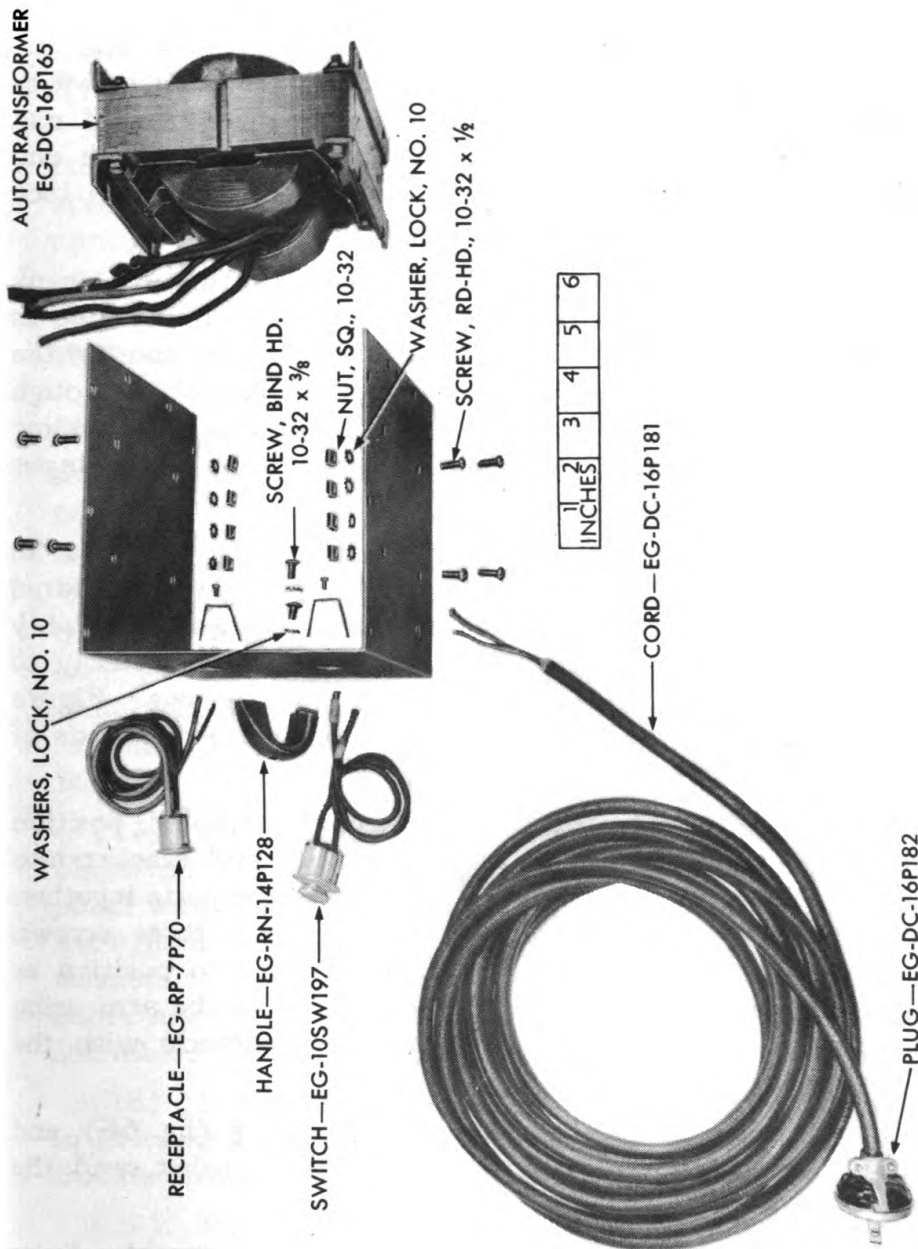

Figure 153 — Components of Ultraviolet Lamp Transformer
(6) Unsolder the electrical leads connecting the switch, receptacle, autotransformer, and cord as shown in figure 153. Remove